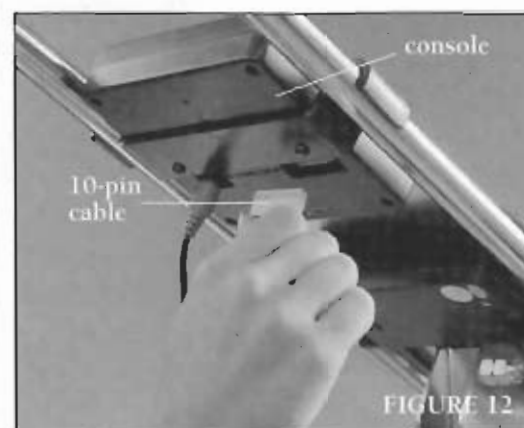

FIGURE 12
7. Plug the 10-pin cable into the console (Figure 12).